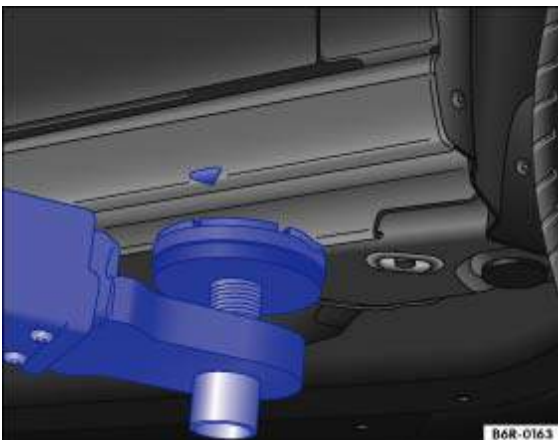
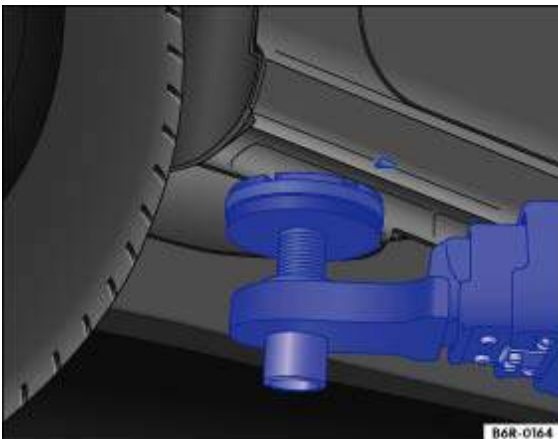

Fig. 179 Lifting points at front for the lifting platform or vehicle jack
Fig. 180 Lifting points at rear for the lifting platform or vehicle jack
The vehicle may only be lifted at the points shown in the illustrations → Fig. 179 and → Fig. 180. If the vehicle is not raised on the lifting points shown, the vehicle could be damaged → . There is also a risk of serious injury → .
- The vehicle should only be lifted at the points indicated in the illustrations → Fig. 179 and → Fig. 180. If the vehicle is not lifted at the points shown, it could fall off the lifting platform when work is being carried out, e.g. when the engine or gearbox is removed.